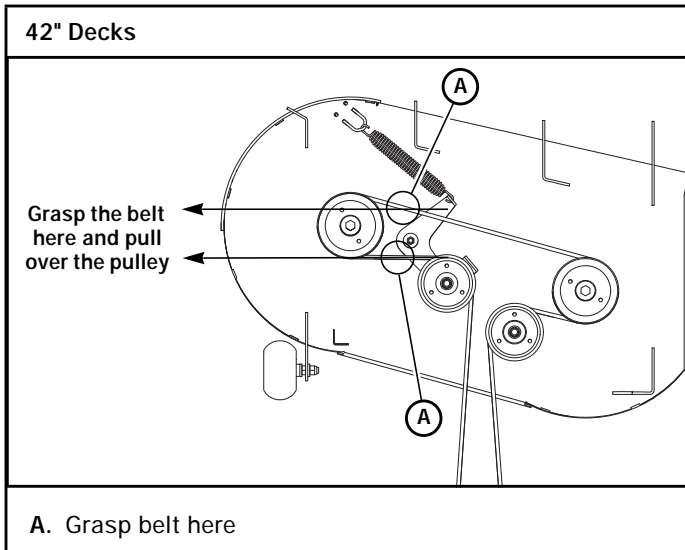
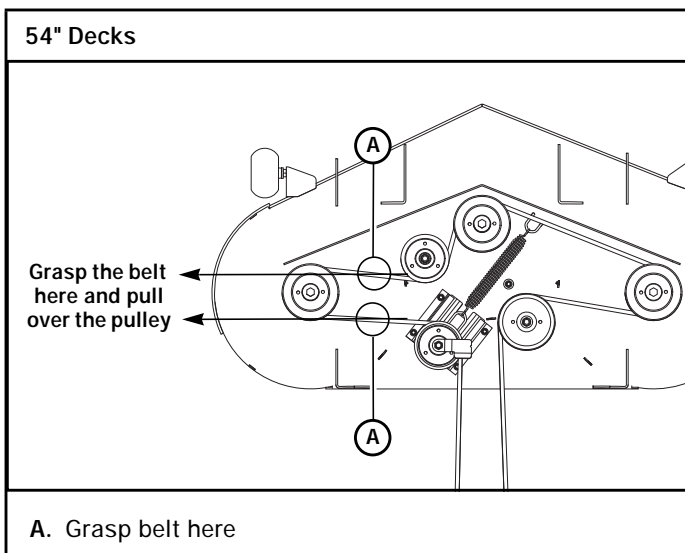

Figure 6-13
Figure 6-14
4. Grasp the belt at the two locations shown and pull the belt over the left spindle pulley. Figure 6-13 & Figure 6-14
8. Re-tension the deck drive belt by pulling on the deck belt at the locations shown. Slide the deck belt over the left spindle pulley. Figure 6-13 & Figure 6-14